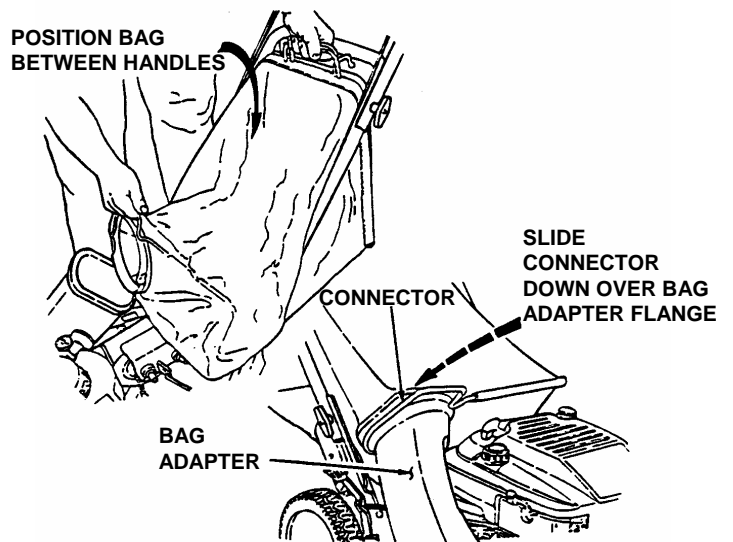
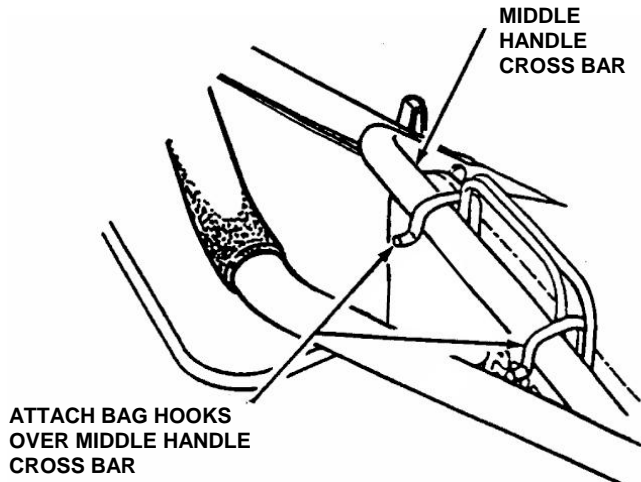

FIGURE 2.11
FIGURE 2.12
STEP 1: Install grass catcher by sliding connector over flange of adapter. See Figure 2.11. Attach grass bag hooks over middle handle cross bar. See Figure 2.12.
Install grass catcher by sliding connector over flange of adapter. See Figure 2.11. Attach grass bag hooks over middle handle cross bar. See Figure 2.12.